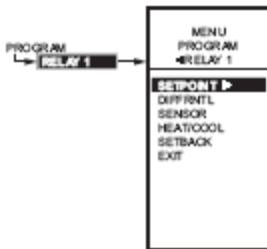

Fig. 2
2. Press the ► button to select MOD 1 to view the parameters. Fig. 2 shows RELAY 1. In MOD 1, THROT RNG replaces DIFFERNTL.